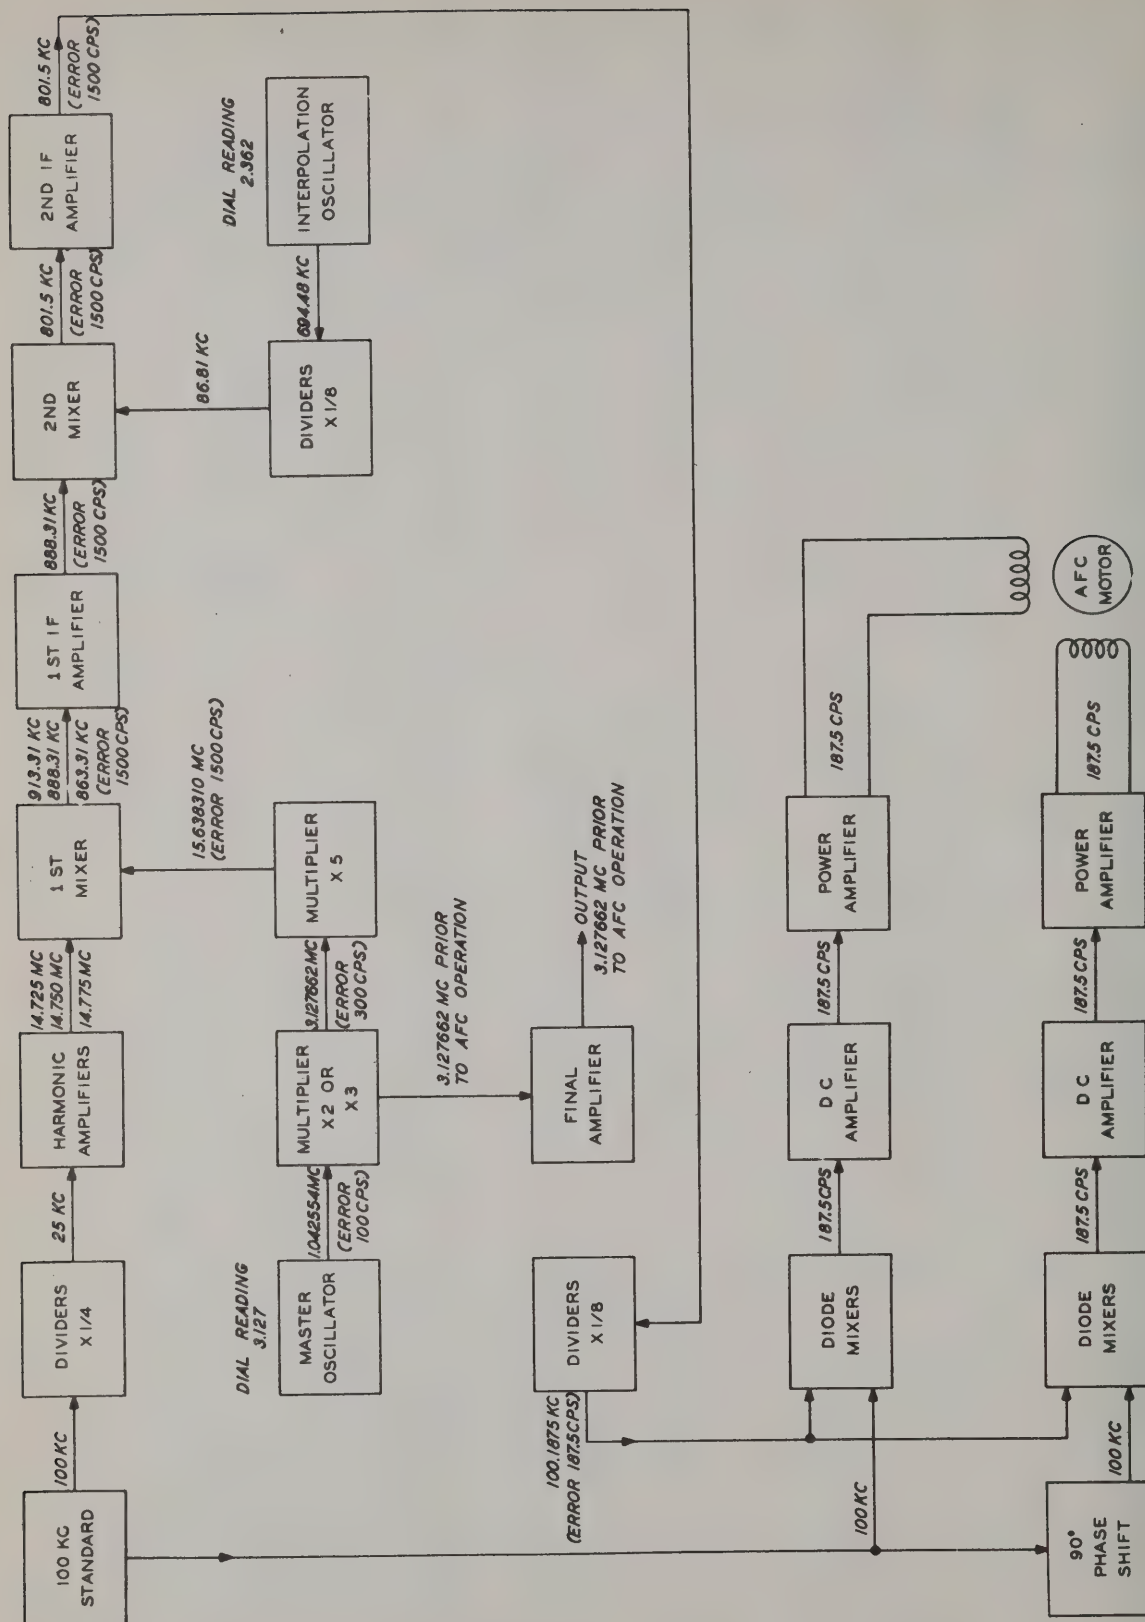

Figure 102. R-F Oscillator O-91/FRT-5, Typical Frequencies, 100-cycle Error in Master Oscillator Setting, Block Diagram.
3. Figure 102 shows the frequencies which would result if the same output frequency of 3,127,362 cps were to be set up, but the MASTER OSCILLATOR dial setting were in error by 100 cycles. Any error in master oscillator frequency will produce a signal proportional in frequency to that error across the afc motor windings, and operate the motor to correct the master oscillator tuning. As the error frequency decreases, that is, the output frequency of the oscillator unit approaches the desired frequency, the torque output of the afc motor falls off until it reaches zero, and the master oscillator frequency has been corrected. It might be noted that the accuracy of frequency of the O-91/FTR-5 unit as a whole is a direct function of the accuracy with which the INTERPOLATION OSCILLATOR dial is set; therefore, that dial should be adjusted with care.